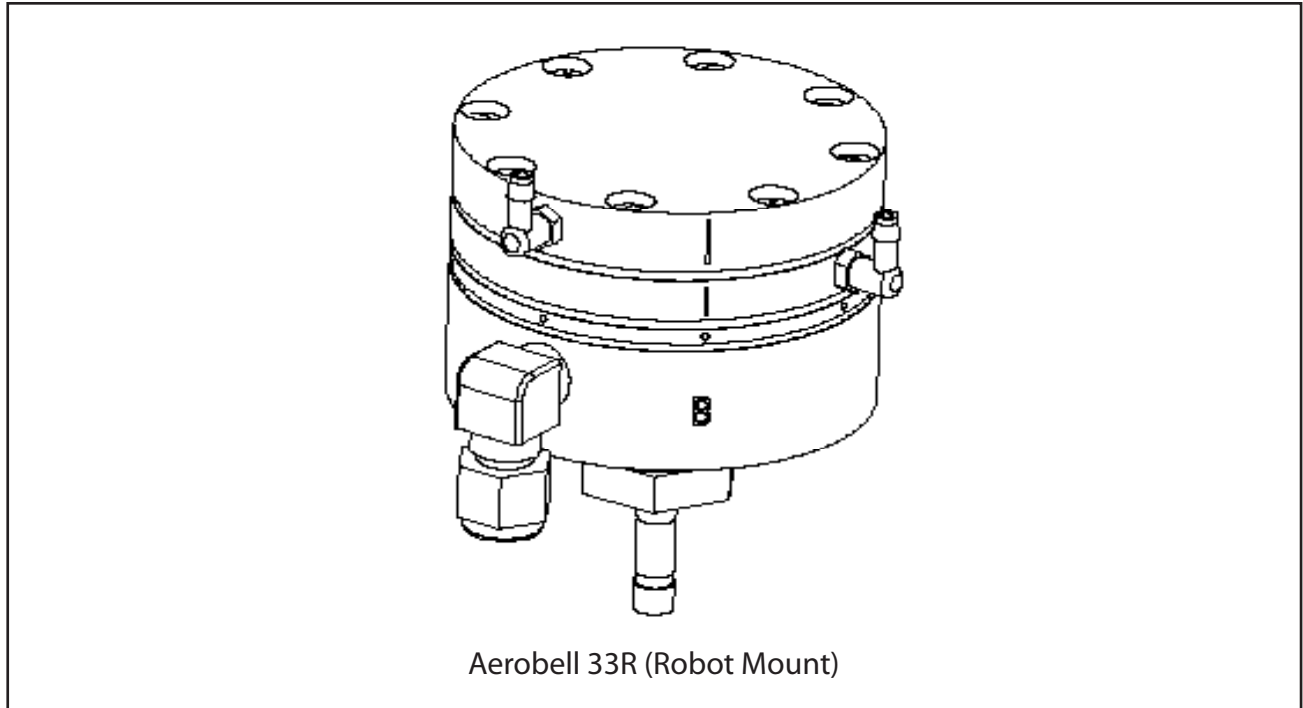

Figure 2: Fitting Alignment
11. Place Item 2 (spacer ring) on the top of the diaphragm assembly with largest opening facing "DOWN". Rotate the spacer ring, without rotating the diaphragm assembly, so that the alignment mark in the spacer ring is directly over the correct letter stamped on Item 3 (lower housing). (See Figure 2 for correct fitting alignment based on your applicator.)
13. Place Item 1 (cap) on diaphragm. Rotate the cap, without rotating the diaphragm assembly, so that the alignment mark is in line with the mark on Item 2 (spacer ring) (see Figure 2).